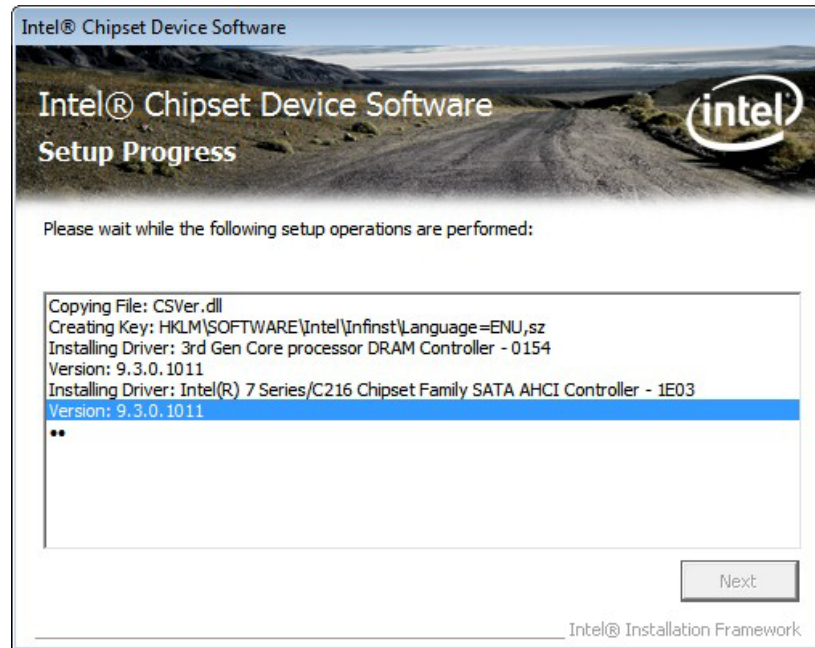

Figure 6-6: Chipset Driver Setup Operations
Step 11: **Setup Operations** are performed as shown in Figure 6-6.